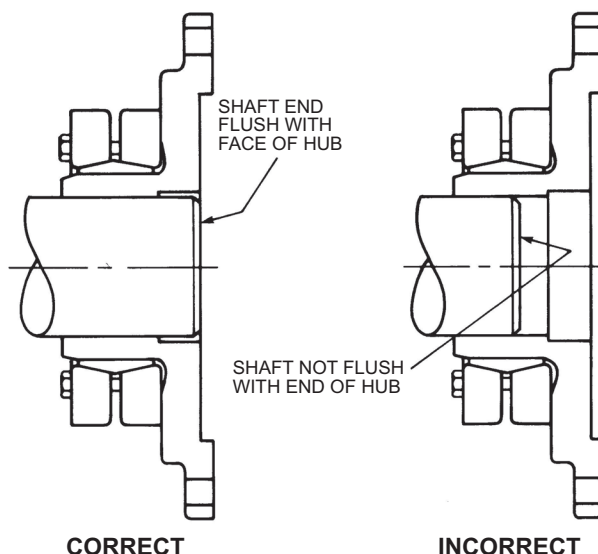

Figure 4
- (5) Slide both hub and shrink disc into place on the shaft. Mount hub as shown in Figure 4, so that each hub face is flush with the end of its shaft.